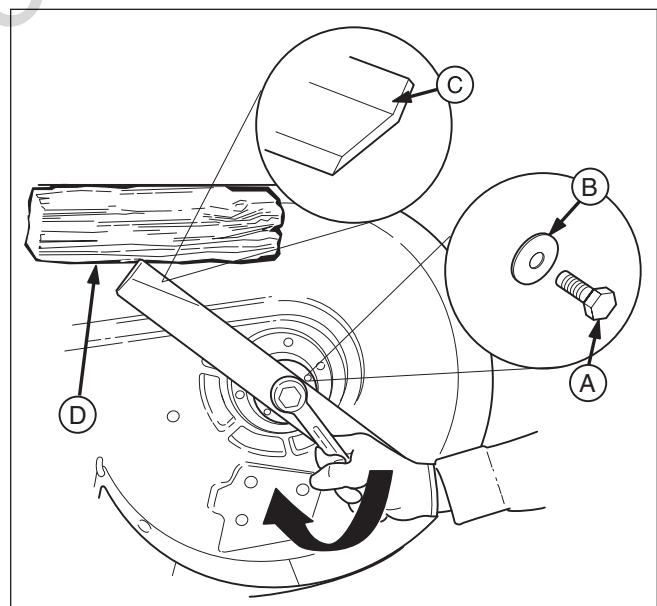

Figure 31. Tightening the Mower Blade for Installation
1. Reinstall each mower blade with the air lifts pointing up towards the mower deck as shown in Figure 31.
- 36" Models:** Make sure the blade is firmly seated in the blade saddle. Secure with the mower blade mounting bolt and flat washer (A & B, Figure 31) and torque to 70 ft. lbs (94 Nm).
- 48" Models:** Secure with the mower blade mounting bolt and flat washer (A & B, Figure 31) and torque to 70 ft. lbs (94 Nm).